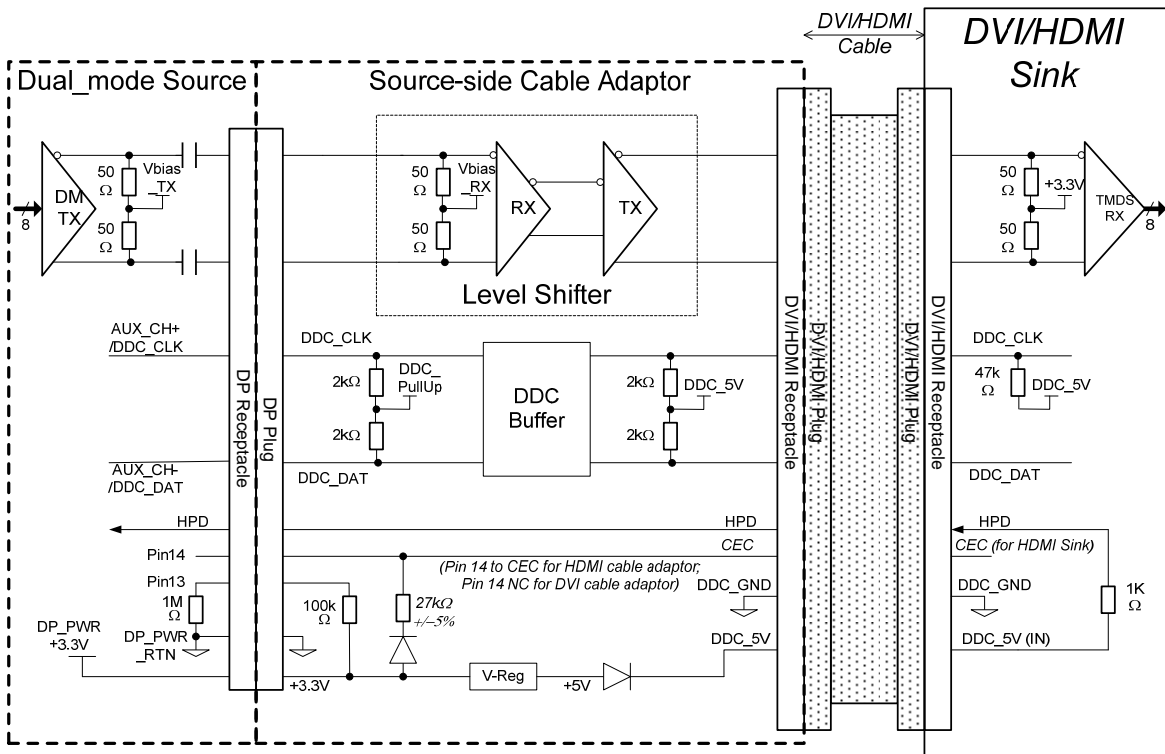
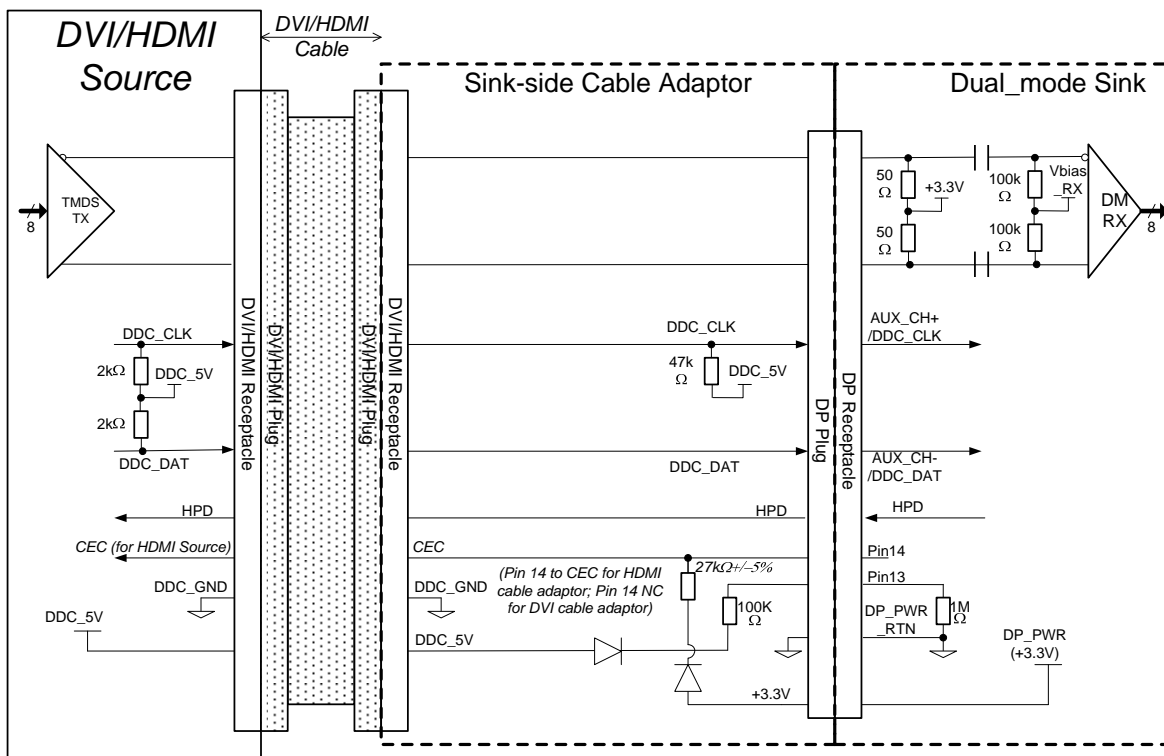
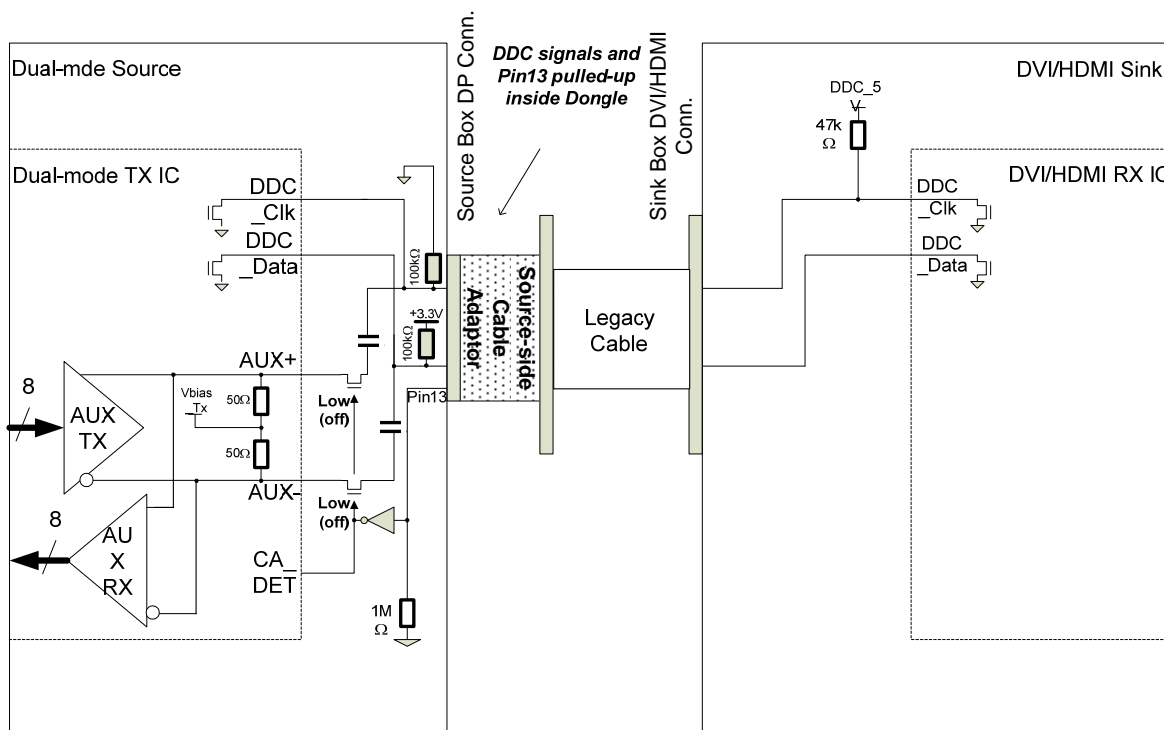
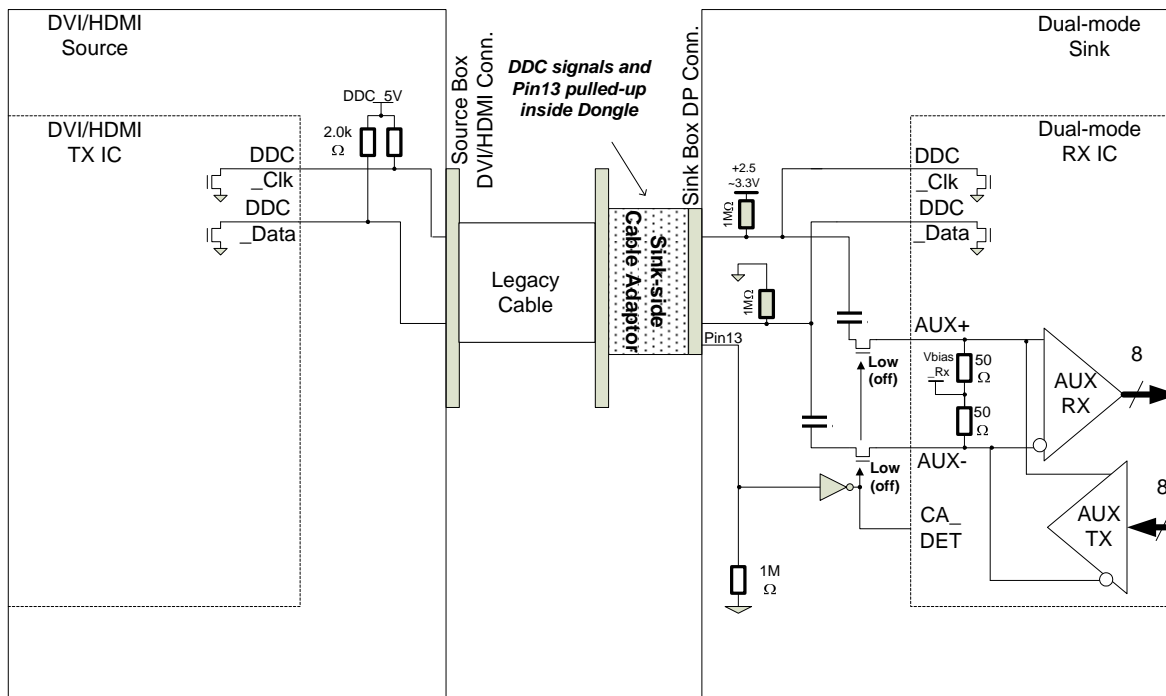

Figure 5-1: A Source-side Cable Adaptor Plugged to a Dual-mode Source Device
Figure 5-2: A Sink-side Cable Adaptor Plugged to a Dual-mode Sink Device
Figure 5-3: DisplayPort to DVI 1.0/HDMI Sink Device DDC Mapping
Figure 5-4: DisplayPort to DVI 1.0/HDMI Sink Device DDC Mapping
- Figure 5-1, “A Source-side Cable Adaptor Plugged to a Dual-mode Source Device”, updated
Figure 5-1 shows a Source-side cable adaptor plugged to a Dual-mode Source Device.
For a DDC transaction, a Dual-mode Device must isolate the AC-coupling capacitors of the AUX CH signal lines from the DDC signals lines, regardless of whether Pin 13 voltage level is monitored or not. Figure 5-3 and Figure 5-4 show an example of how this isolation can be realized.
As for the DP_PWR voltage, a Dual-mode Source Device must set it to +3.3V \pm 10%. A cable adaptor generates DDC_5V from this DP_PWR as shown in Figure 5-1.
Figure 5-2 shows a Sink-side cable adaptor plugged to a Dual-mode Sink Device.
The DP_PWR output of a Dual-mode Sink Device is not used in the cable adaptor. DDC5V pin of the DVI 1.0/HDMI receptacle connector is connected to Pin 13 via a diode and a 100 kΩ resistor to pull up the pin as shown in Figure 5-2.
Source and Sink Devices that support both DisplayPort 1.1a and DVI 1.0/HDMI should route the AUX CH and DDC signals as shown in Figure 5-3 and Figure 5-4. A pair of switches is placed on the AUX CH lines in these Dual-mode Source and Sink Devices to control the mapping of the DDC signals. The switches are OFF when a cable adaptor is attached as Pin 13 of DisplayPort connector is pulled up, and are ON when a cable adaptor is not attached as the Pin 13 is pulled down as can be seen in Figure 5-1 and Figure 5-2.
Though it is not shown in Figure 5-3 below, AUX+ must be pulled down to ground via 100k Ω resistor and AUX- pulled up to +3.3V via 100k Ω resistor for Source Device and powered Source Device detection purposes, respectively as in the main DisplayPort Specification.
As is the case with any DisplayPort Sink Devices, Dual-mode Sink Devices must have AC coupling capacitors on the AUX/DDC lines as shown in Figure 5-4. Furthermore, a Dual-mode Sink Device, just like any other DisplayPort Sink Device must have AUX+ weakly pulled up to +2.5 ~ +3.3V and AUX- weakly pulled down both via 1M Ω resistors.
As can be seen in Figure 5-2, level shifting is done inside the Dual-mode Sink Device. No level shifting is done within the Sink-side cable adaptor.